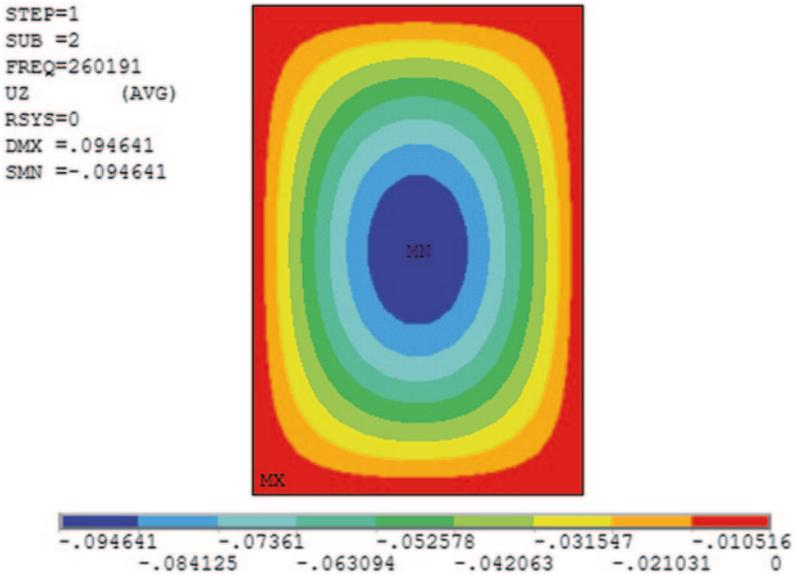

Fig. 8.54 Contour plot of u_z field (z-displacement) under second buckling mode
- The contour plot will appear in the *Graphics Window*, as shown in Fig. 8.54.